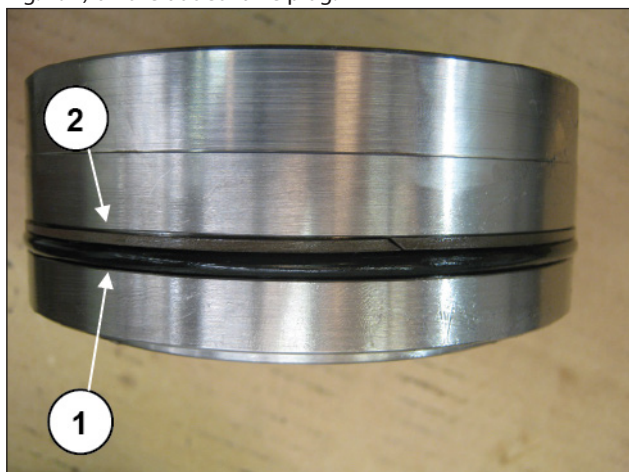

Fig. 194
Fit the O-ring (pos. ①, Fig. 194) and back-up ring (pos. ②, Fig. 194) on the outlet valve plug.